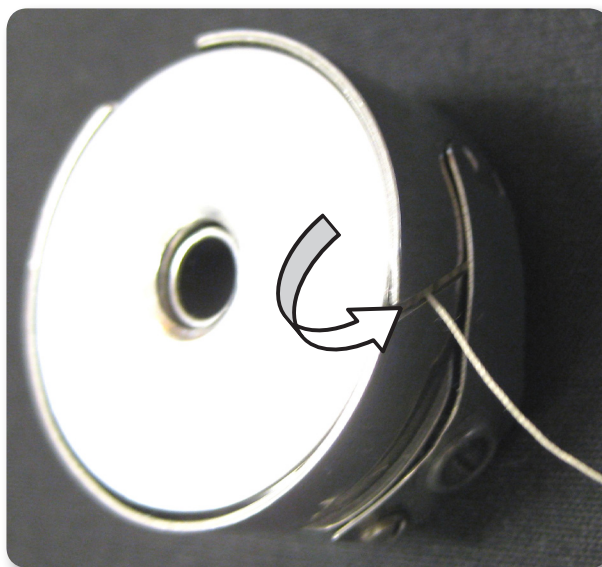

Figure 18
2. Slide the thread through the slot (Figure 18) and under the tension spring leaving 5 to 6 inches of thread hanging loose (Figure 19, next page).